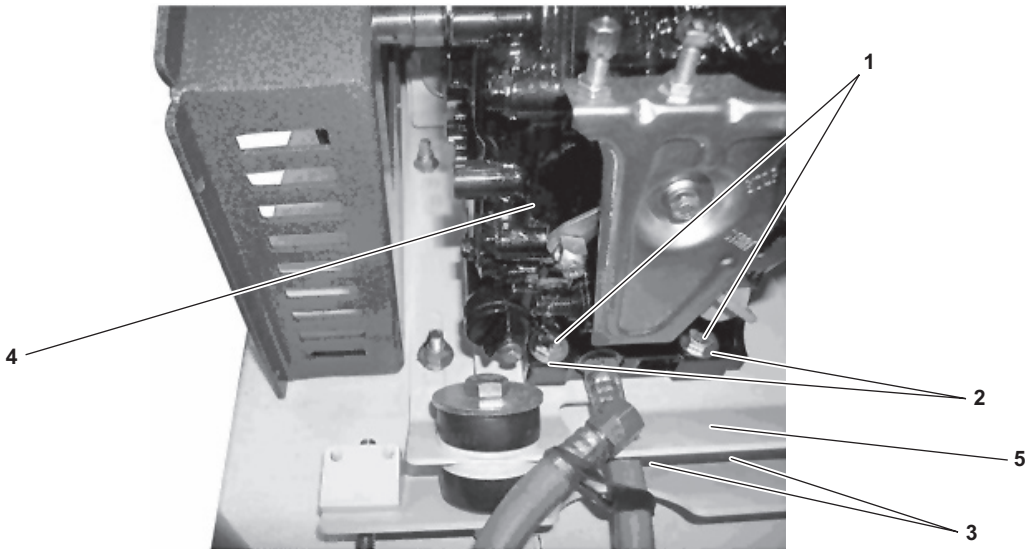

Figure 6-50. Diesel Engine Removal from Mounting Plate
- (7) Remove the four bolts (figure 6-50, item 1), flat washers (figure 6-50, item 2), and nuts (figure 6-50, item 3) that secure the diesel engine (figure 6-50, item 4) to the diesel engine mounting plate (figure 6-50, item 5).
- (8) Remove the diesel engine (figure 6-50, item 4) from the diesel engine mounting plate (figure 6-50, item 5).
- (1) Install the diesel engine (figure 6-50, item 4) on the diesel engine mounting plate (figure 6-50, item 5).
- (2) Install the four bolts (figure 6-50, item 1), flat washers (figure 6-50, item 2), and nuts (figure 6-50, item 3) that secure the diesel engine (figure 6-50, item 4) to the diesel engine mounting plate (figure 6-50, item 5).